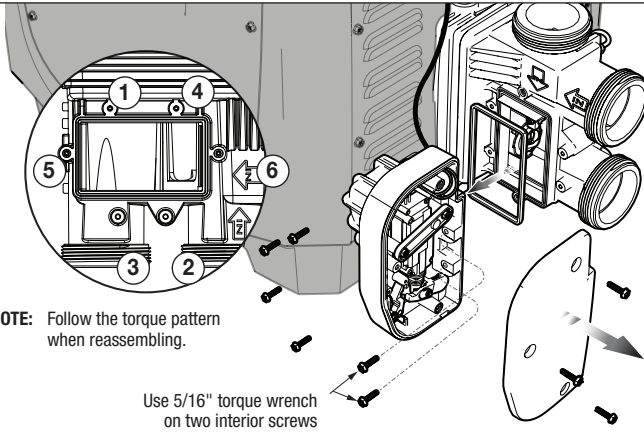

Figure 16. Install VersaFlo Assembly
- b. Torque the screws in place following the torque sequence shown above the note in *Figure 16*.